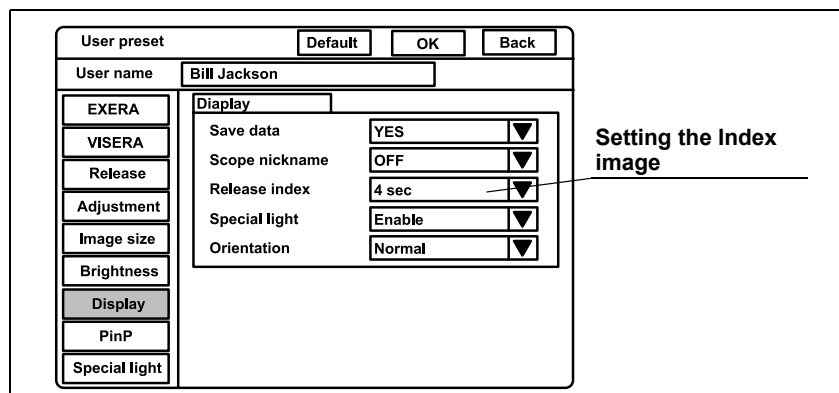

Figure 9.35
1. Click “ ▼ ” of “Release index” (see Figure 9.35). The display times appear in the pull-down menu.